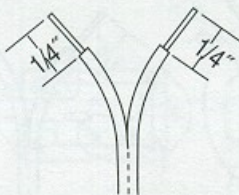

Figure 3-2
- REMOVE 1/4" of insulation from the Receiver end of the wire. (Figure 3-2)